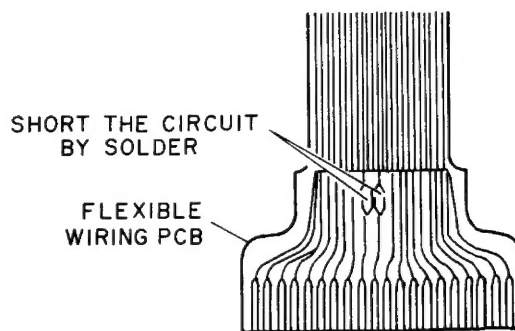

Fig. 4-1
- 3) When connecting or disconnecting the RF AMP PCB (J201), make sure that the FLEXIBLE WIRING PCB is shorted circuit as shown in Fig. 4-1.